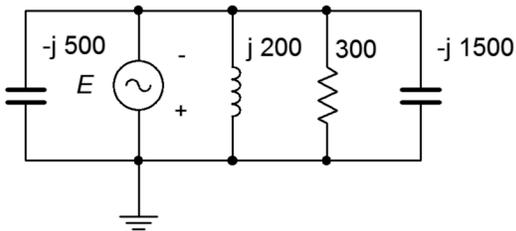

Figure 3.9
14. Determine all of the branch currents for the circuit shown in Figure 3.9 assuming  $E$  is a 1 volt RMS sine.